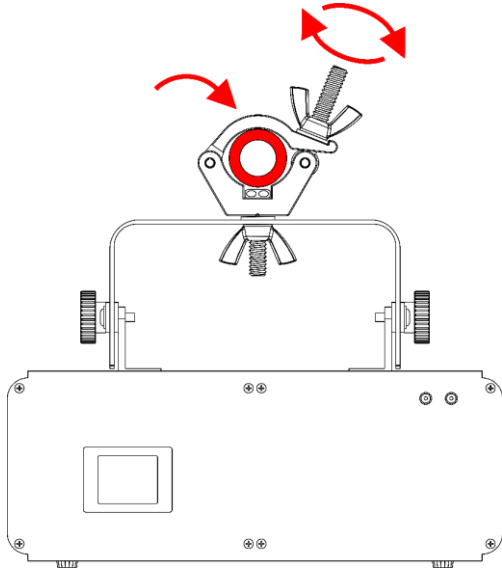
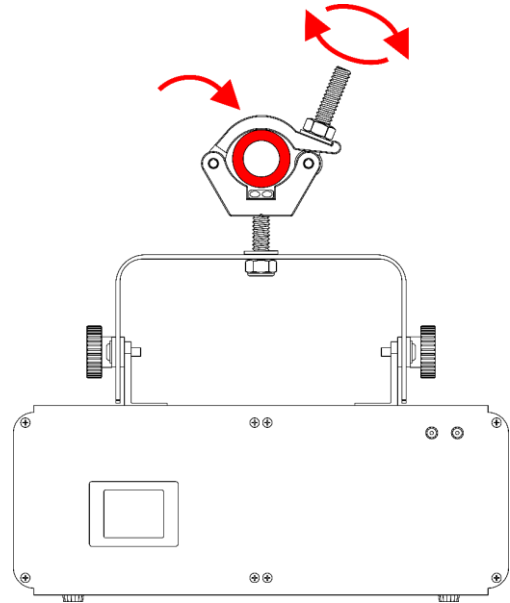

Fig. 07
Fig. 08
07) Put the device, with the installed load, around a tube (\varnothing 32 mm) and close the **lock (11)**. See Fig. 07 or Fig. 08.
08) Put the **hex nut (01)** (fixed installation, Fig. 08) or the **wing nut (02)** (temporary installation, Fig. 07) on the **hex bolt (03)** and turn it clockwise, to tighten the device around the tube.